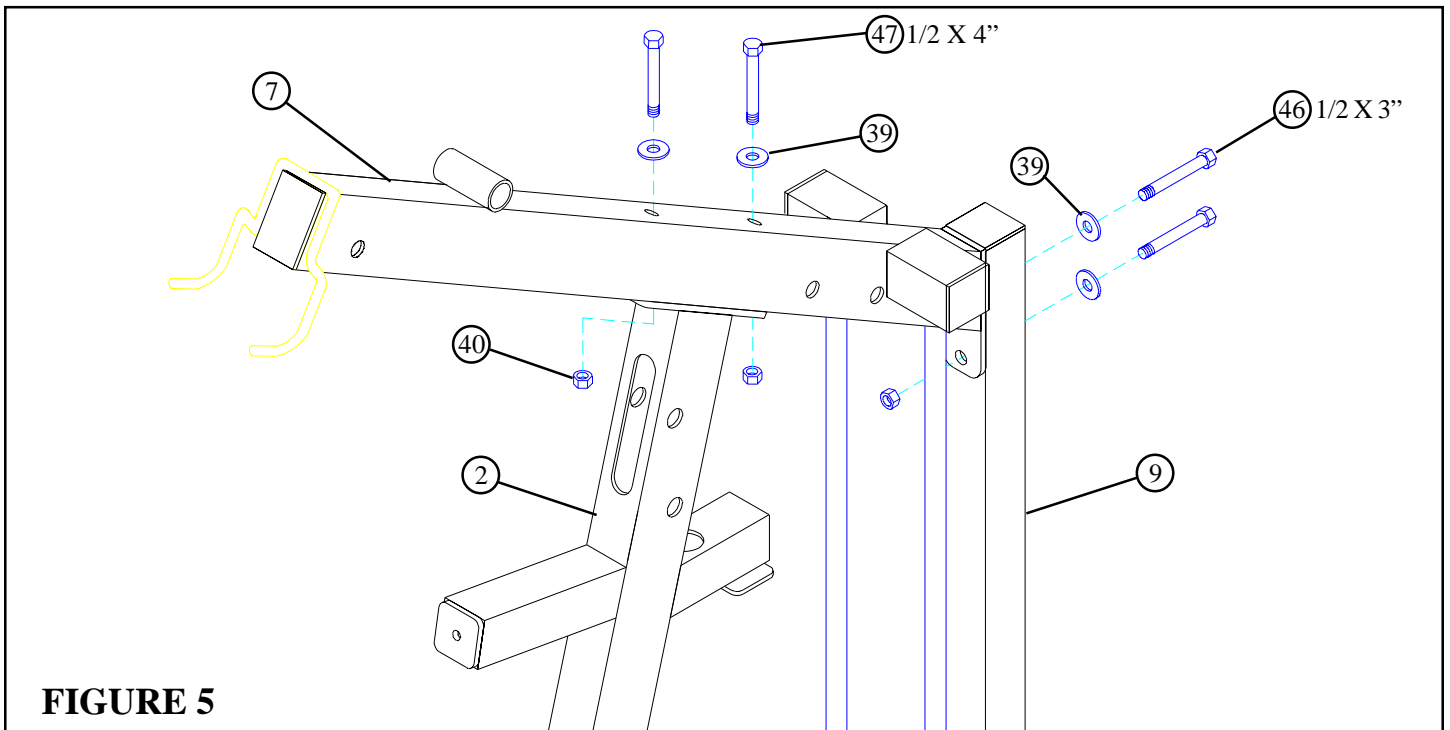

**FIGURE 4**
- Swing the GUIDE RODS (16) under the TOP BOOM (7) as shown on FIGURE 4.